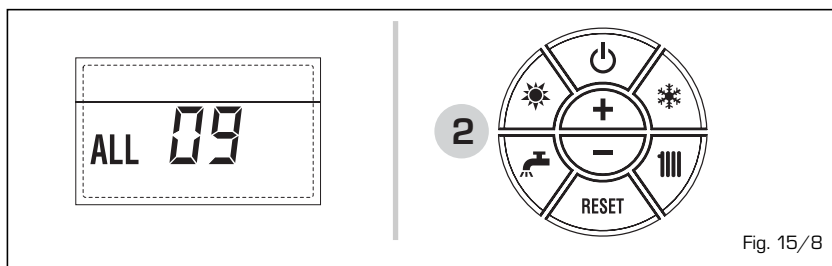

Fig. 15/8
– **ANOMALÍA SONTA AUXILIAR “AL 10” (fig. 15/9)**